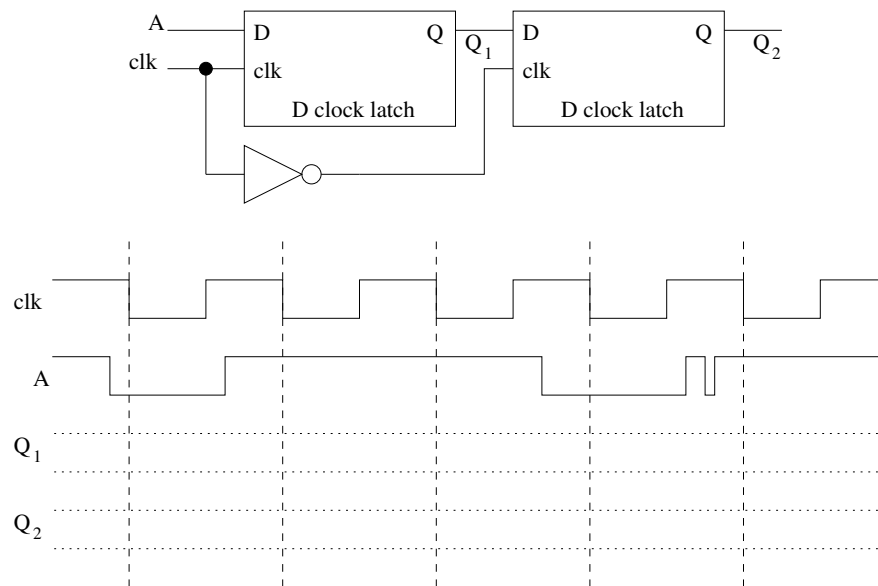

Figure 5.10: A 2-stage sequential circuit.
3. (8 pts.) Complete the timing diagram for the circuit shown in Figure 5.10. Which basic memory element does this circuit act like?